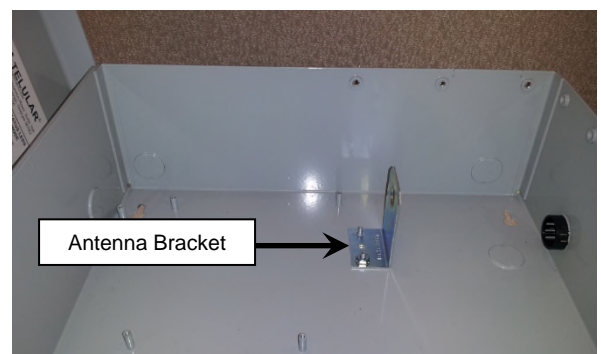

Figure 3.
6. If you have a Legacy 2G TG-7A you must remove the antenna bracket. (Figure 3)